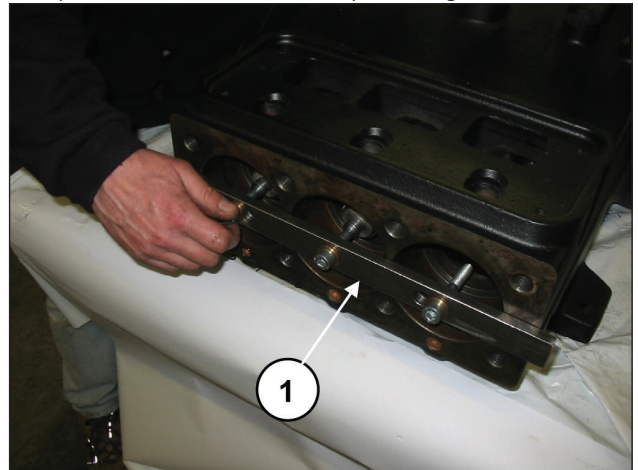

Fig. 26
Advance the half supports in the direction of the hydraulic part to allow the shaft to come out. To facilitate this operation, use special tool (code 27566200), (pos. ①, Fig. 26).